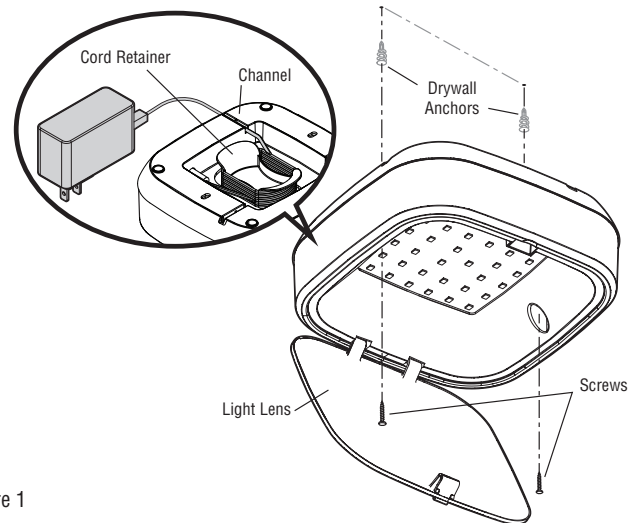

Figure 1
1. With the smart light lens open, hold the device up to the surface of the desired mounting location within 6 ft. from the electrical outlet. Mark screw hole locations on the mounting surface with a pen or pencil (Figure 1).